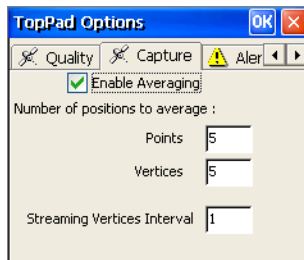

Figure 2-3. Setting Data Capture Parameters
3. Tap the *Capture* tab to set the number of continuous GPS measurements to average (Figure 2-3). Enter the following parameters:
- Enable Averaging – always enable when working with TopPAD to ensure proper data processing. If disabled, the “Number of positions to average” fields will be set to one (1).